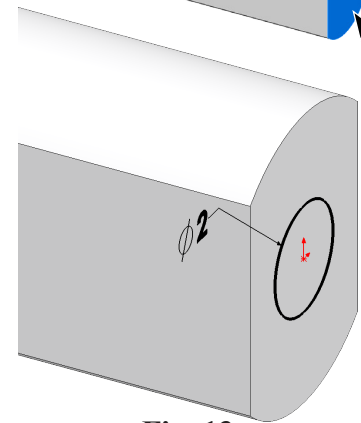

Fig. 13
Step 2. Click **Circle**  (S) on the Sketch toolbar.
Step 3. Sketch a circle at **Origin** , **Fig. 13**.
Step 4. Click **Smart Dimension**  (S) on the Sketch toolbar.
Step 5. Dimension **diameter 2**, **Fig. 13**.